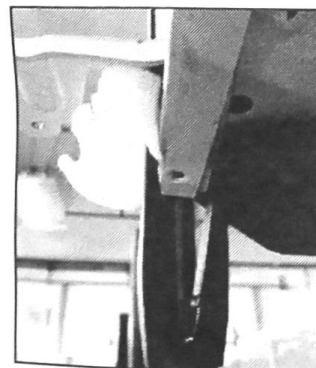

FIGURE 10
12. If it is still difficult to insert the bracket, repeat step 8 to make more space or use long nosed pliers to clamp (be sure to protect surface by using a soft cloth to avoid scratching the cabinet front). See Figure 10.